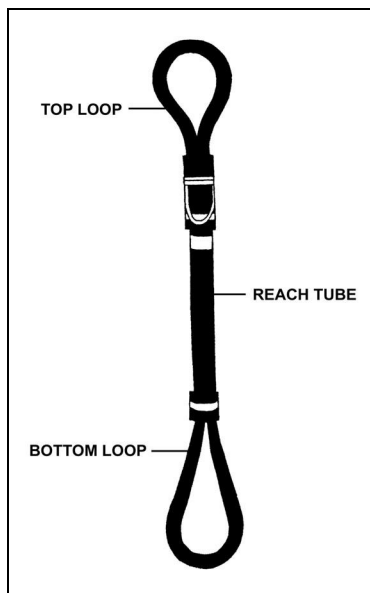

Figure 5-5. Reach pendant.
d. **Reach Pendants.** A reach pendant is a synthetic rope assembly with an attached, stiffened reach tube and a loop on each end. The built-in reach tube enables the hookup man to place the pendant's top eye on the helicopter cargo hook while the helicopter hovers at a higher distance over the load (Figure 5-5, page 5-6). Two reach pendants are authorized for use with slingloads. To use either pendant with a sling set, remove the sling set apex fitting pin; place the pendant's lower eye in the apex fitting; and reinstall the apex fitting pin.